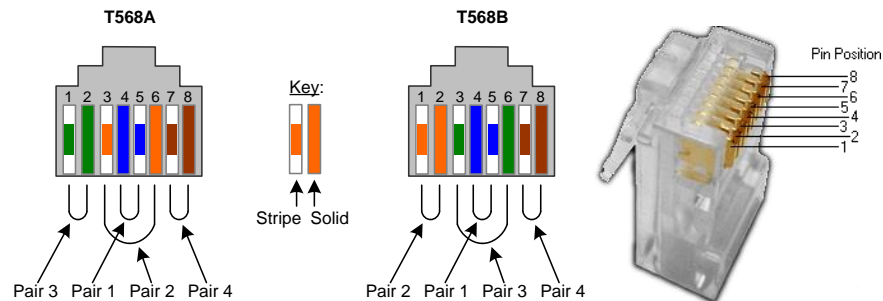

Figure 12-4: Pins on RJ-45 Jack Face
RJ-45 Pin Configuration	Four (4) pairs required. Straight-through wiring. Crimp connectors as per T568A or T568B (both cable ends must be crimped the same way). See Table 12-4 and Figure 12-4 .